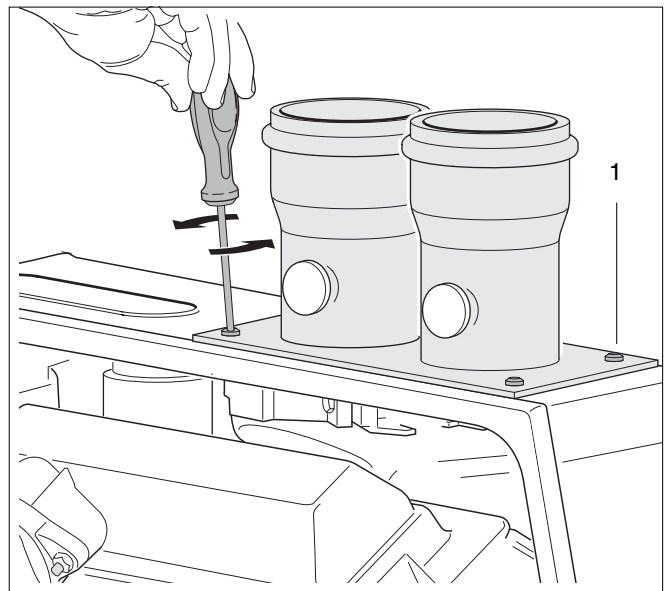

Fig. 134 Loosening the fastening screws
- Loosen the 6 fastening screws of the flue gas adapter (see fig. 134, pos. 1).
- Remove the flue gas adapter (see fig. 134, pos. 1) from the top of the appliance.